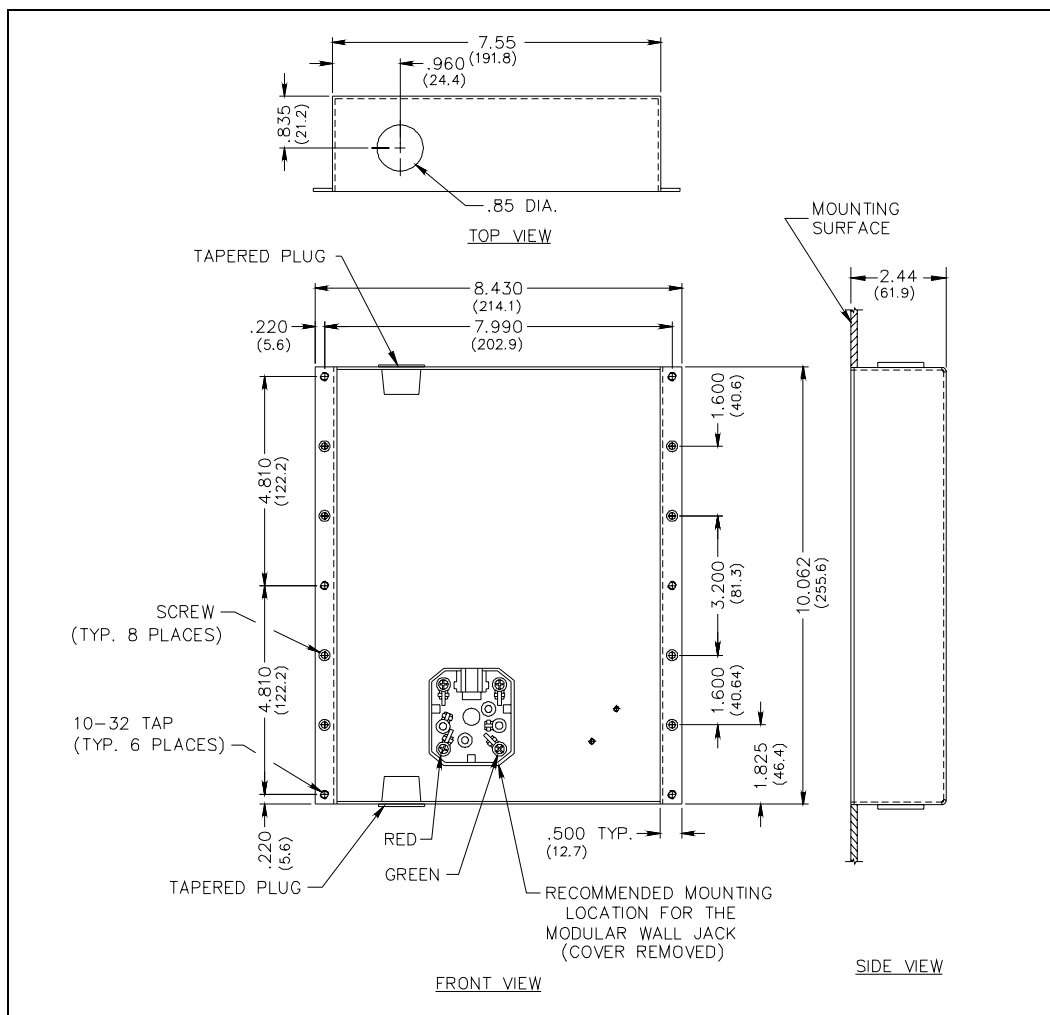

Figure 9. Model 277-003 Mounting Details
1. When mounting in a GAI-Tronics Model 234 Series Stanchion or for flush-mount installations, the supplied back box must be used to mount the Model 277-003 Telephone. Mount the back box to the structure using the appropriate hardware. Refer to Figure 9 cutout dimensions.